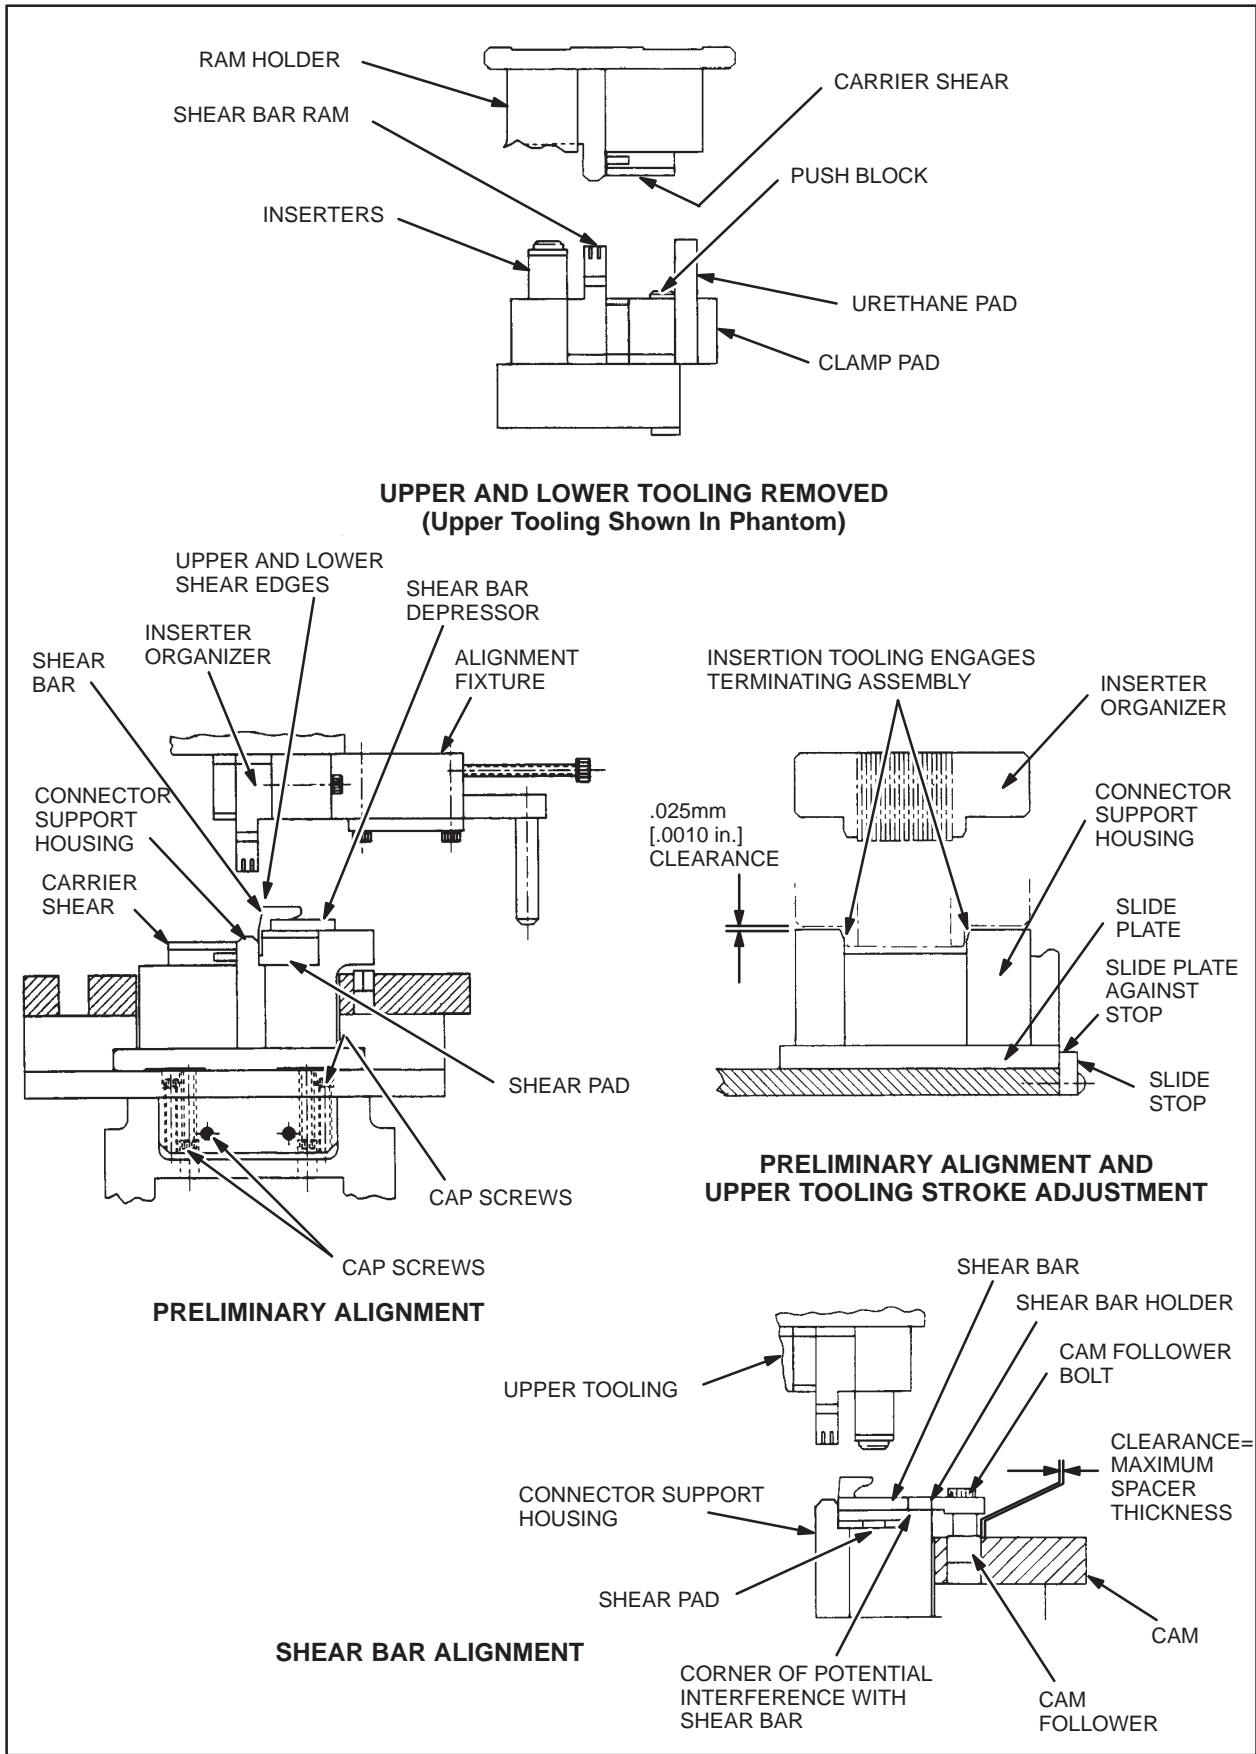

Fig. 7-1. Tooling Alignment
7.2. Tooling Alignment Procedure (Figure 7-1)
E. Wire Comb Stuffer Seating Depth Adjustment (Figures 7-1, 7-2, and 7-3)